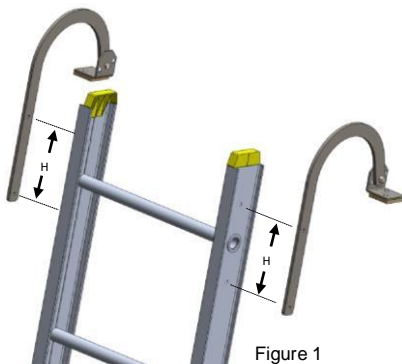

Figure 1
2. Place the Ridge Hook flat and centered on the ladder siderail outer face as shown on Figure 1. In some cases, depending on the ladder, the ladder end-caps need to be removed so the Ridge Hook lays flat on the siderail.
3. Using the Ridge Hook pre-drilled holes as a guide, locate the drilling spots and mark them on the ladder. The drilling spots must be located at the same or similar distance from the ladder top-rung as shown on Figure 1. Repeat steps 1 and 2 on both ladder siderails.